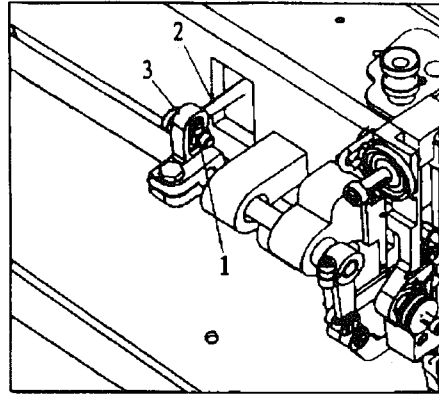

Fig.7
11、 ADJUSTMENT OF WALKING FOOT AND PRESSER FOOT (Fig.7)